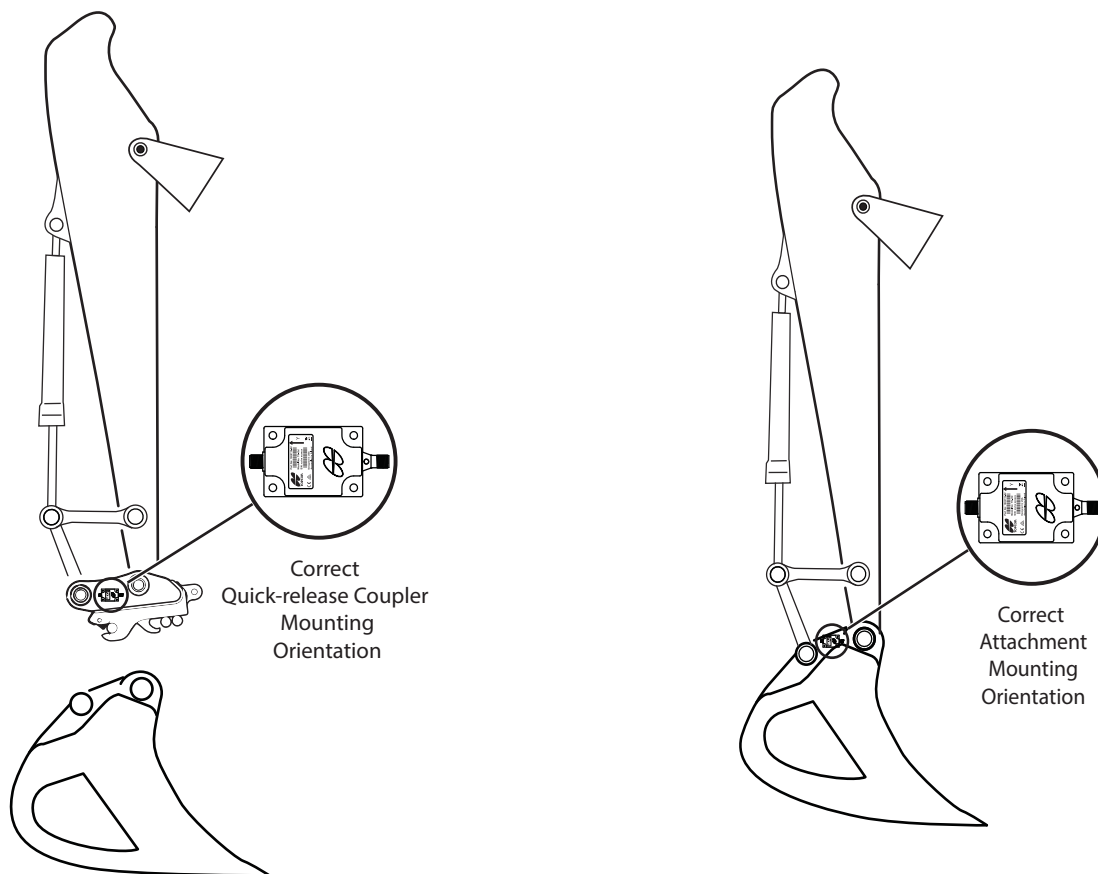

Figure 38: Quick-release and Attachment Sensor Mounting
When mounting the attachment sensor, keep the following in mind (Figure 38):
- Mount the sensor between the attachment pivot pin and the linkage pin as shown in Figure 38.